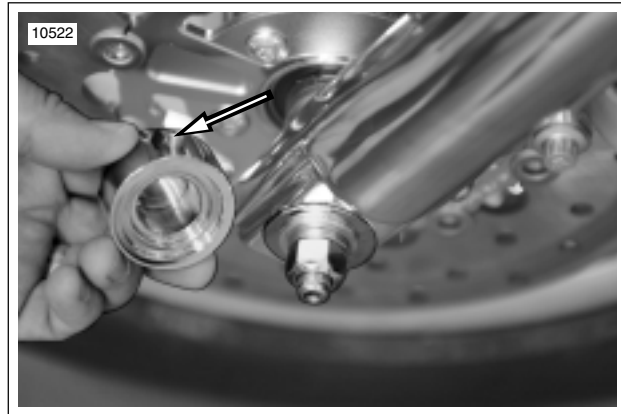

Figure 2-8. Front Axle Cover Set Screw
1. See Figure 2-8. Loosen but do not remove set screw under cover. Remove cover.